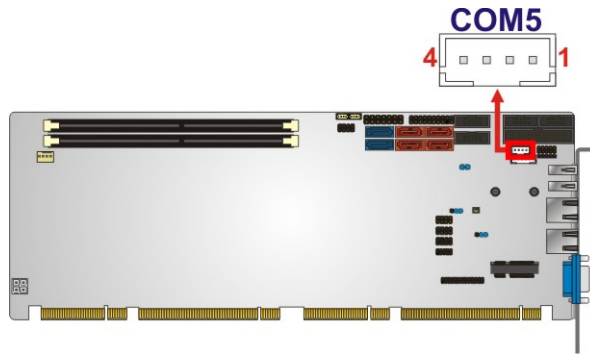

Figure 3-18: RS-422/485 Connector Location
- CN Location:** See **Figure 3-18**